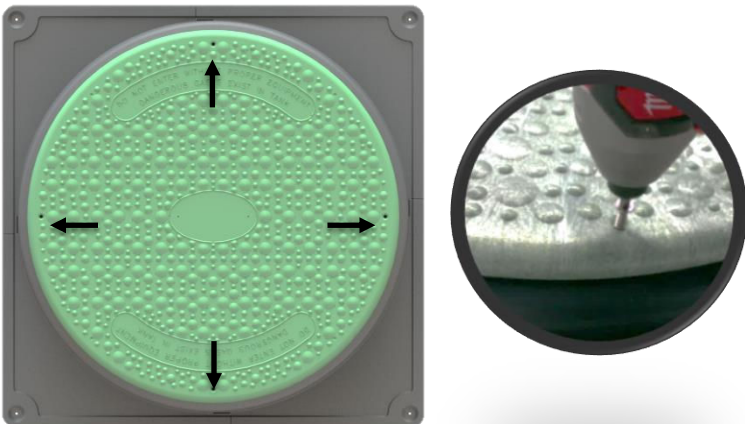

Figure 14: Cover installed
16.) Install four (4) cover security screws (riveted to underside of cover during shipping) and tighten (2 in-lbs.) with appropriate driver tool to secure riser cover to riser pipe (Fig.14)